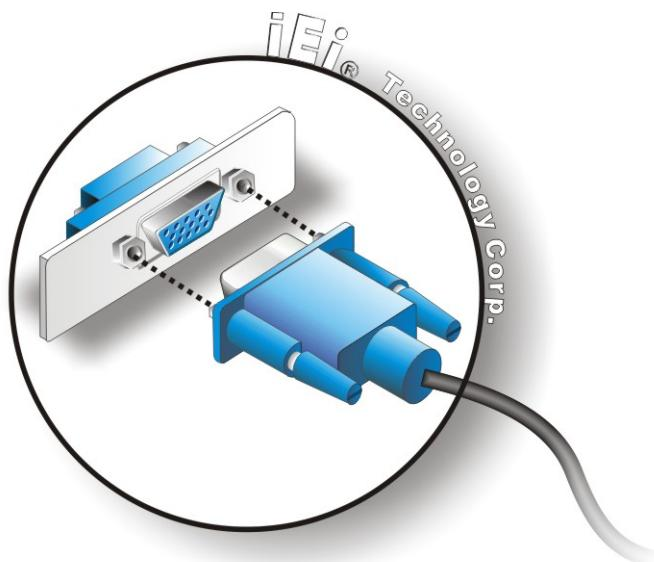

Figure 4-17: VGA Connector
Step 3: Insert the VGA connector. Once the connectors are properly aligned with the insert the male connector from the VGA screen into the female connector on the KINO-AH612. See Figure 4-17.